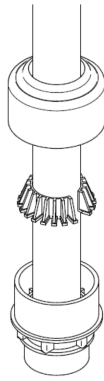

Fig. 24
3. Insert the hose all the way in until it goes no further (Fig. 24)